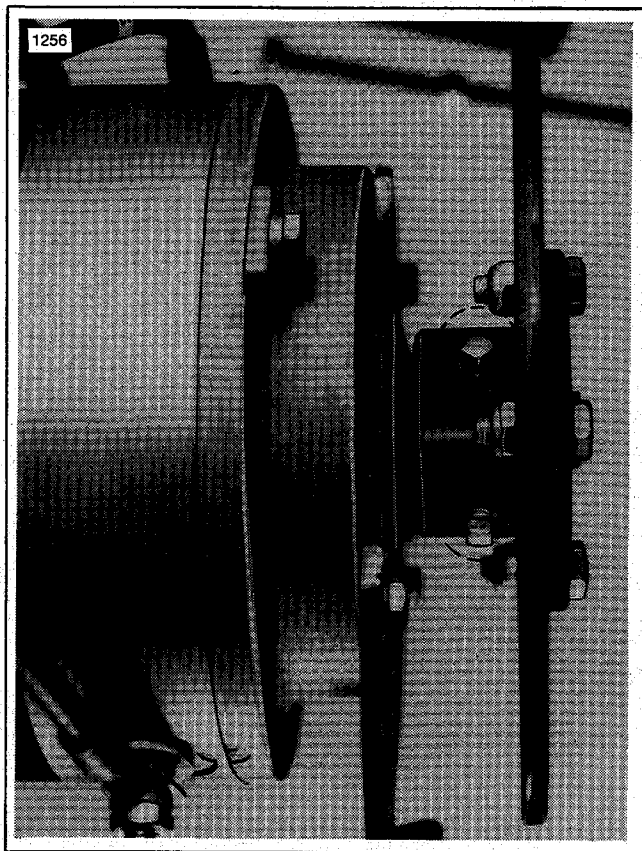

Figure 2-26. Set Screws
2. Loosen the two brake disc hub set screws (Figure 2-26).
4. Tighten two set screws (Figure 2-26) to 96-120 in-lbs (6.7-8.4 kgc) torque.